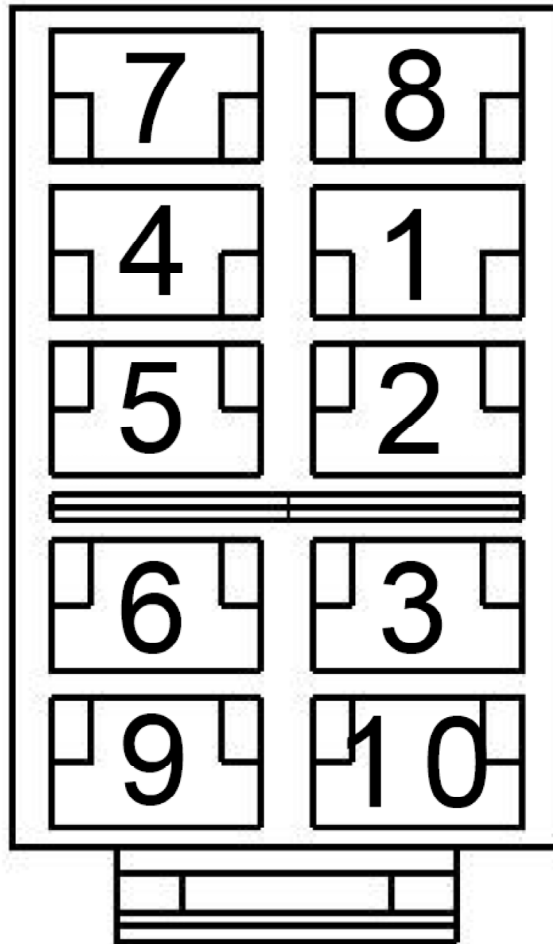

Figure 11
9. Remove the terminal from cavity 2, cut off and discard the terminal (see *Figure 11*).